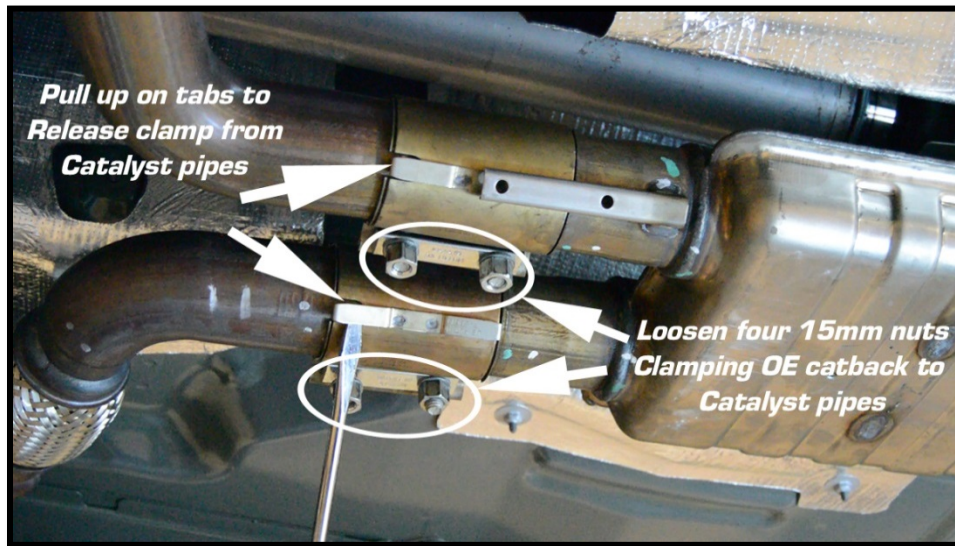

FIGURE 1
**STEP 1:** Loosen the two 2.5" collars attaching the OE Catalyst pipes to the factory catback exhaust. You will also need to pry the small metal clips off of the locking tab to release the collars. (fig 1)